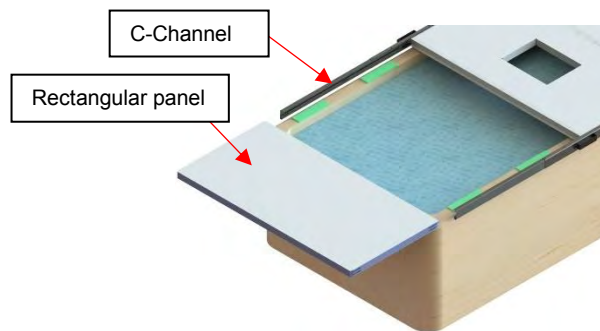

Figure 73
26) Slide in one of the remaining rectangular panels into the C-channels. (Figure 73)